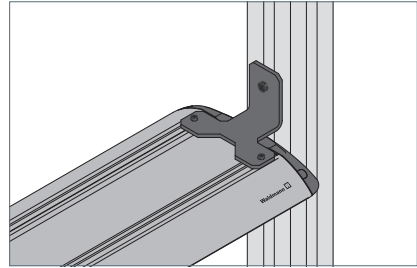

Fig. 13: Mounting the luminaire of mounting type "Lateral".
- Mount the luminaire on the mounting surface using a suitable screw, see Fig. 13.